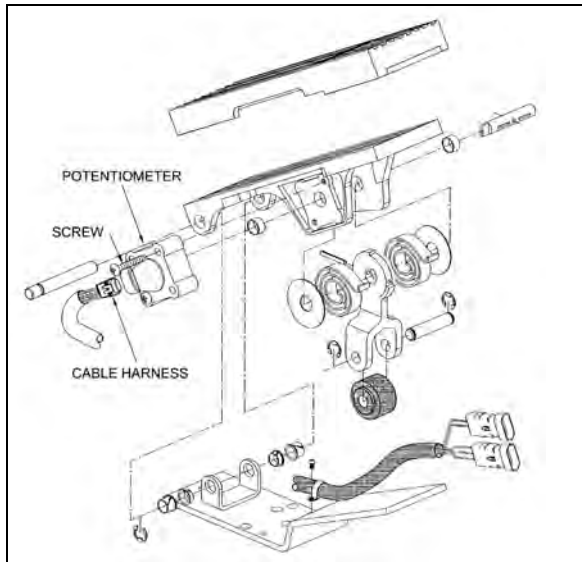

FIGURE 37: ELECTRONIC FOOT PEDAL ASSEMBLY 03035
3. Discard potentiometer (Figure 37).
4. Position new potentiometer. Press potentiometer onto the potentiometer shaft, matching cutouts in shaft to drive tangs of potentiometer. Apply hand pressure until potentiometer has bottomed out in housing. Reinstall screws (Figure 37) and tighten just enough to secure potentiometer lightly.